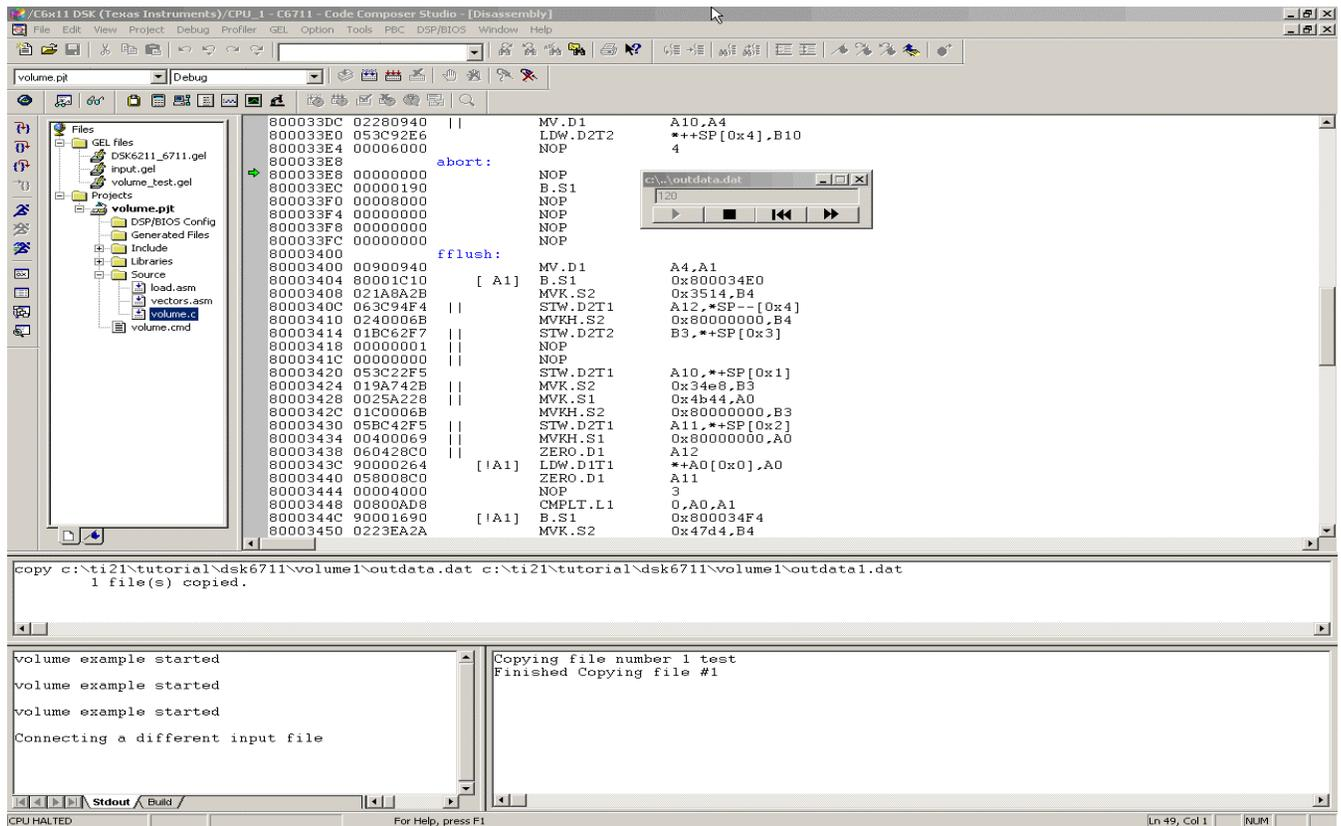

Figure 6. Final Output Screen of Multiple Test Vector Case
5. Verify the results by checking the contents of the data files. The resultant output file outdata.dat is given in Appendix F. After rearranging, the developer's screen should resemble the screen capture in Figure 6.